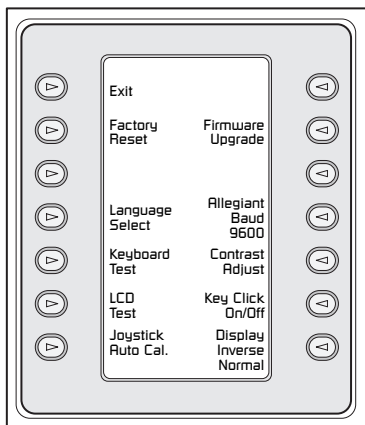

Figure 3-3 Keyboard Control Menu
3. The Softkey Display shows the **Keyboard Control** main menu (see **Figure 3-3**). A review of the **Keyboard Control** menu options follows.